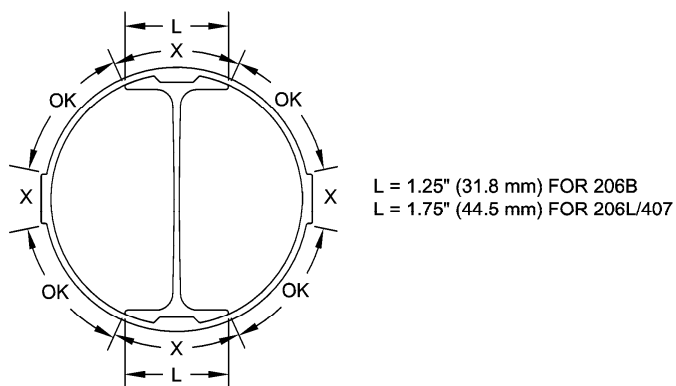

Figure 5-2 – Damage Regions
- 5.2.3 Inspect the skidtube assembly for serious damage in any of the areas indicated by "X" in Figure 5-2.
- 5.2.4 Inspect the sides of the skidtube for excessive wear/damage. Dents up to 2.00" (51 mm) long x 1.00" (25 mm) wide x 0.12" (3.0 mm) deep are acceptable in the areas indicated 'OK' in Figure 5-2. Damaged areas should be a minimum of 3.00" (76 mm) apart.
- 5.2.5 Cracks on the sides (areas indicated by 'OK' in Figure 5-2) of the skidtubes that do not exceed 1.00" (25 mm) in length can be repaired by T.I.G. welding as follows: